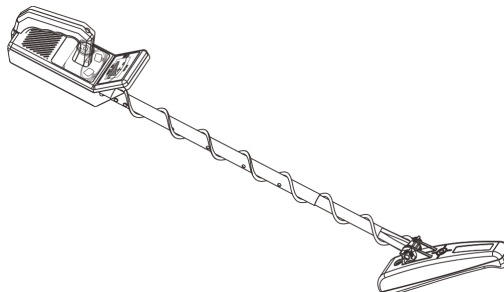

Fig.5
- 4) Adjust the length of the stem by selecting the suitable hole on the upper stem so that you can extend your arm comfortably while doing detection. (See Fig5)